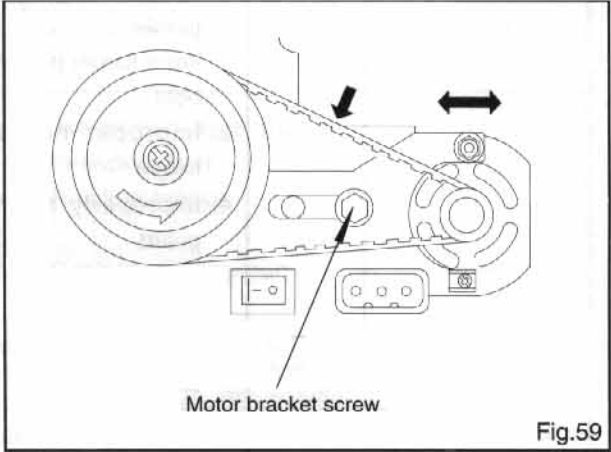

Fig.59
- Loosen motor bracket screw and adjust belt tension by moving the motor forward or backward as required. (Fig. 59)